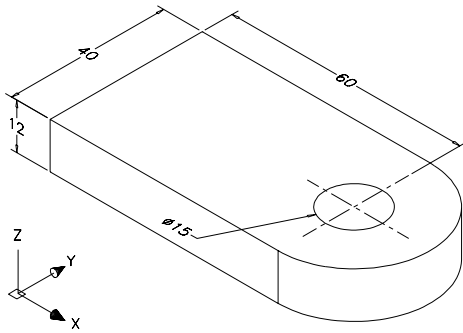

Figure 27-19 Base of the model
2. Create the base of the model and then change the view to Southeast isometric view using the ViewCube, see Figure 27-19.